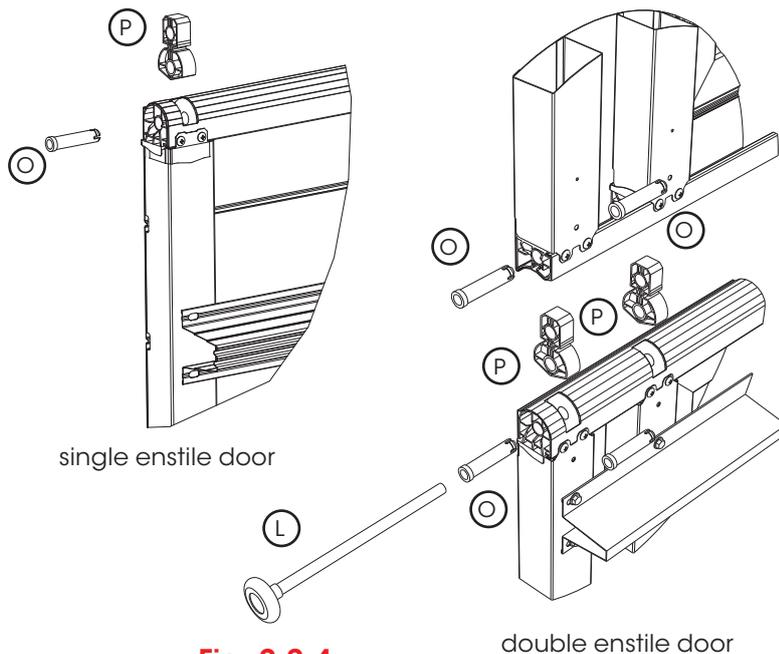

Fig: 2.2.4
g) Insert the polypropylene hinge links (P) or Insul-Shield™ (refer to appendix) into the recesses of the top of the panel and fix into place using the white hinge pins (O). Fig 2.2.4.